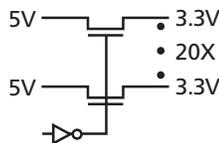

Figure 2-4 • Bus Switch IDTQS32X2384
- 5V tolerance can also be achieved with 3.3V I/O standards (3.3V PCI, 3.3V PCI-X, and LVTTTL) using a bus-switch product (e.g. IDTQS32X2384). This will convert the 5V signal to a 3.3V signal with minimum delay (Figure 2-4).